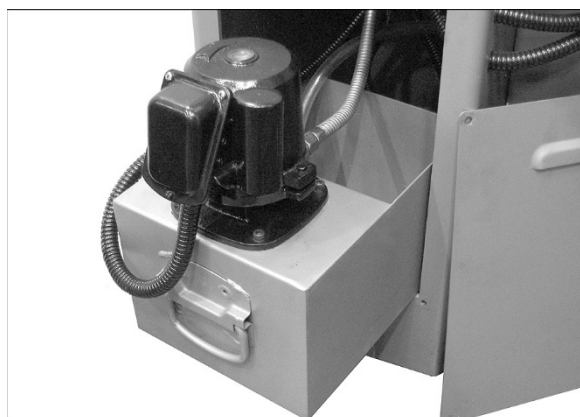

Figure7-7
1. Remove access cover at rear of stand near tailstock end and pull-out coolant tank. See Figure 7-7.